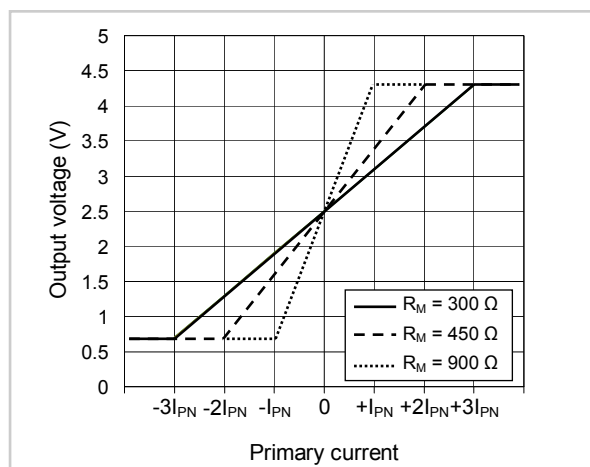

Fig. 2: Characteristic of primary current to output voltage according to different  $R_M$ .  $V_{refout} = 2.5 \text{ V}$ .
3) Output voltage is scaled by changing  $R_M$  but not beyond these limits. See Fig. 2.
- 4)  $R_M > 300\ \Omega$ : reduces  $I_{PR}$  but increases  $G_V$ . See Fig. 2.